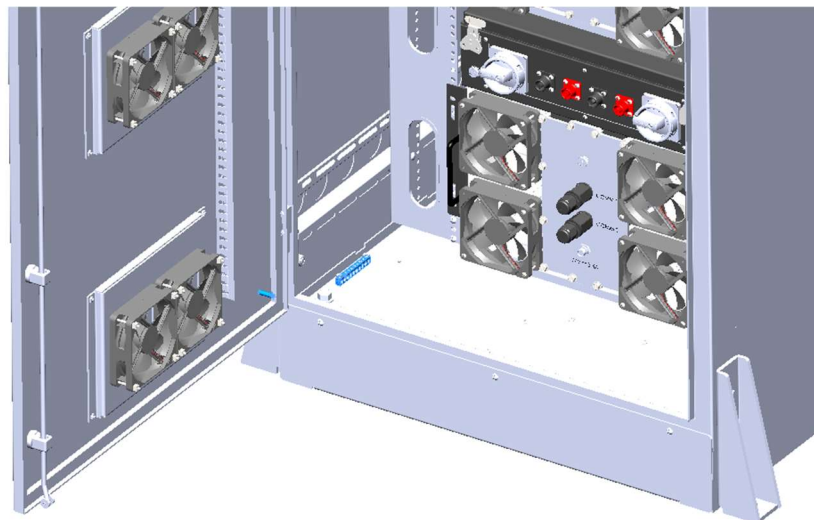

FIGURE 26: BOX CABINET GROUNDING
- A grounding terminal block is bonded to the BOX cabinet, inside the front door on the cabinet floor (see in blue in Figure 26).